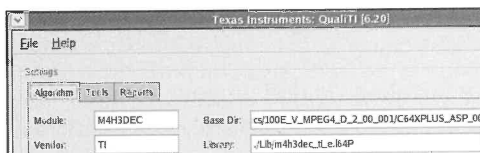

Figure 7-1: Enter the module name and vendor.
3. Enter the module name and vendor, as shown in Figure 7-1.
In Figure 7-1, you're checking the same codec mentioned earlier in this chapter.